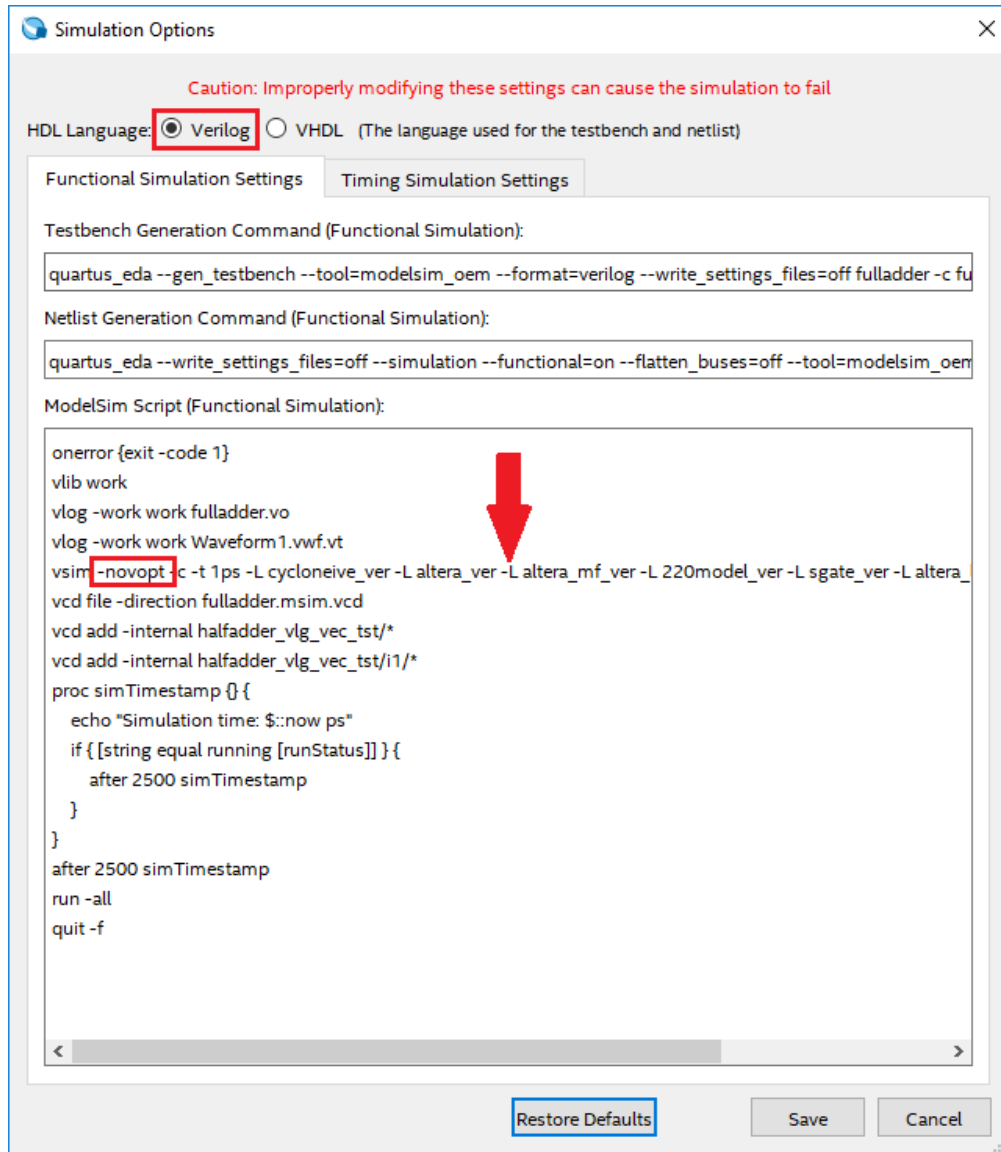

Figure 5.10: Simulation Settings
3. On the **Functional Simulation Settings** tab, locate the line "**vsim -novopt -c .....**" inside the **ModelSim Script (Functional Simulation)** pane. See Figure 5.10.